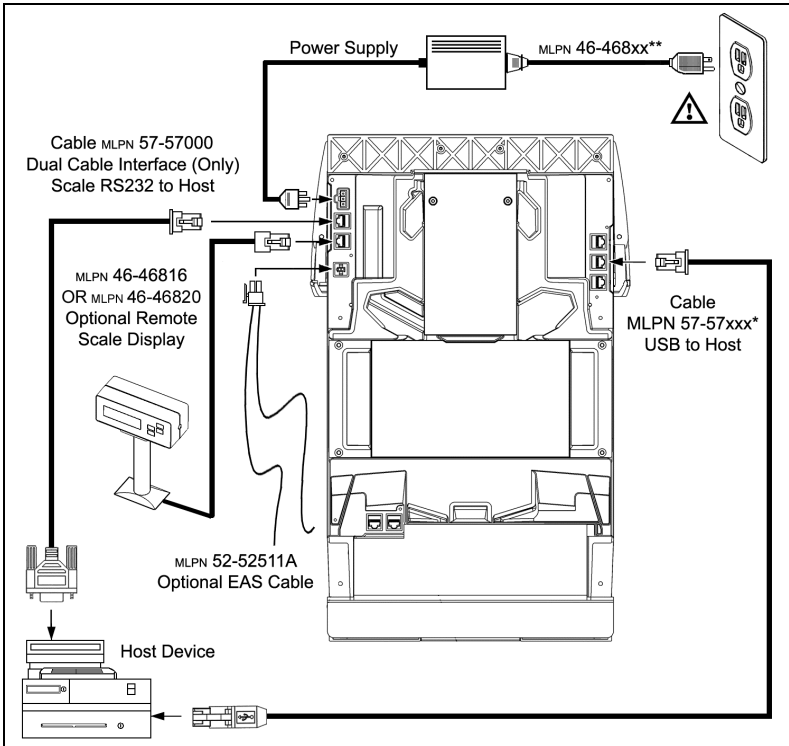

Figure 35. USB Cable Installation Schematic
2. Connect the USB interface cable to the 2nd 10-pin socket on the bottom of the scanner near the serial number label. Refer to figure 35 on page 36.
Connect the scale/host cable to the 1st 10-pin socket on the bottom of the scanner next to the 3-pin Molex plug. Refer to figure 35 on page 36.